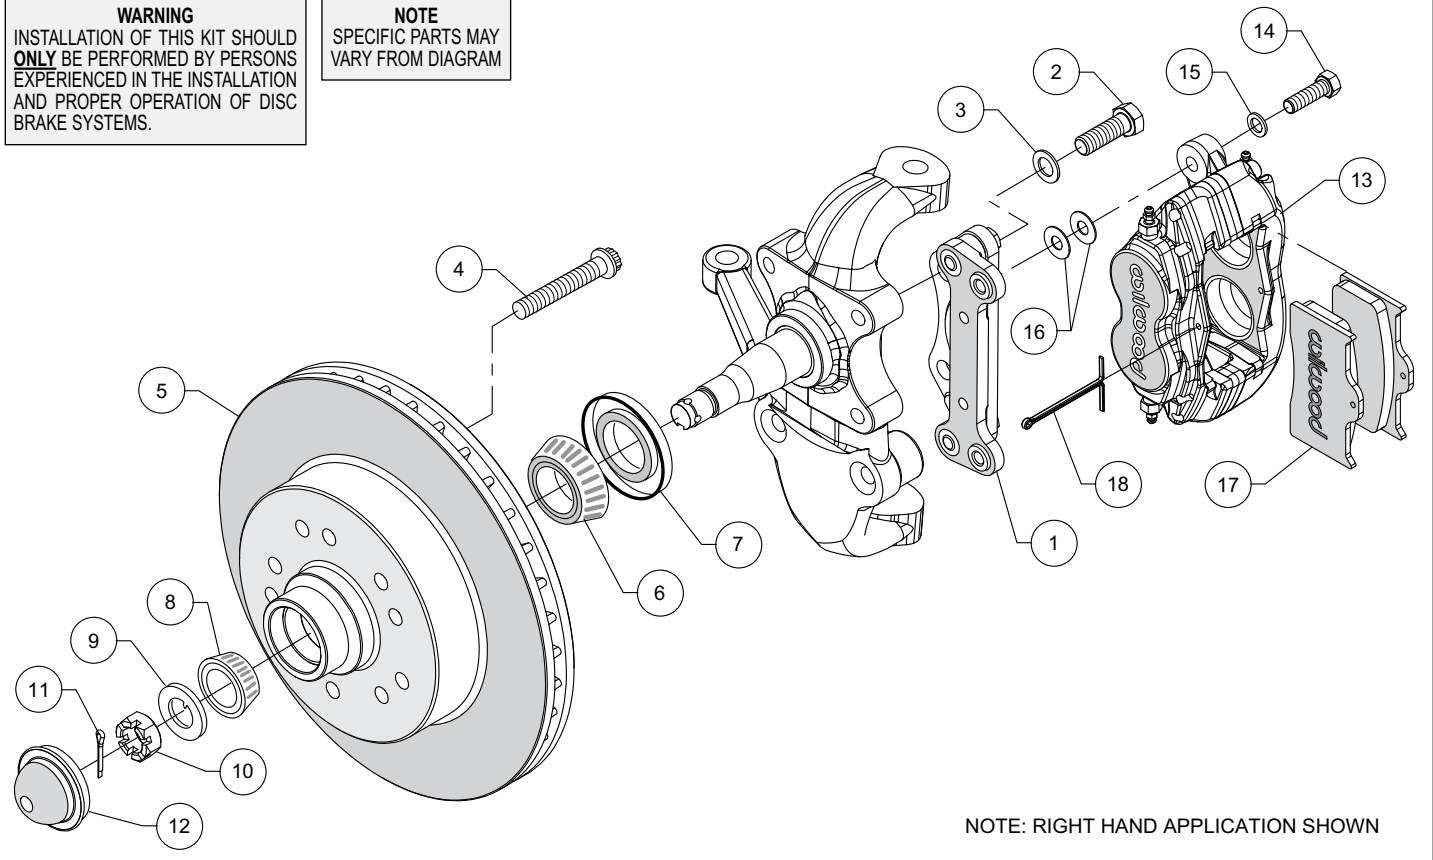
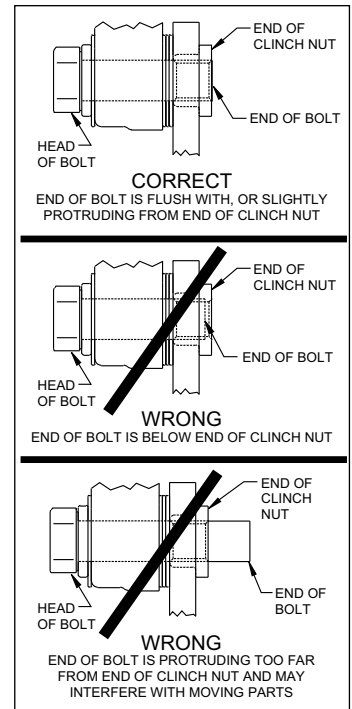

Figure 1. Typical Installation Configuration
Figure 3. Clinch Nut Engagement Diagram
Assembly Instructions (numbers in parenthesis refer to the parts list and Figure 1 on the preceding pages): **CAUTION:** All mounting bolts must fully engage clinch nuts. Be sure to check that all bolts are either flush or protruding through flanged side of clinch nut after shimming, Figure 3.
- Orient the bracket as shown in Figure 1, and Photo 1. Install using bolts (2) and washers (3). Ensure that the flanged heads of the clinch nuts in the bracket are facing outboard, Photo 1. Temporarily tighten the mounting bolts. **NOTE:** The bracket must fit squarely against the mounting points on the spindle. Inspect for interference from casting irregularities, machining ridges, burrs, etc. Remove bolts one at a time, apply red *Loctite*® 271 to threads, and torque to 90 ft-lb.
- Install wheel studs (4) into the hub/rotor (5), Photo 2. Apply red *Loctite*® 271 to the threads and torque to 77 ft-lb. **NOTE:** There are two five lug patterns in the hub (5 x 4.50 and 5 x 4.75). Ensure the correct hub stud pattern is being used to fit the wheel application.
- Pack the large inner bearing cone (6) with high temperature disc brake bearing grease (available from your local auto parts store) and install into the backside of the hub/rotor (5), Photo 3.
- Install the grease seal (7) by pressing into the backside of the hub/rotor (5), flush with the end of the hub, Photo 4.
- Pack the small outer bearing cone (8) with high temperature disc brake bearing grease and install into the front side of the hub (5). Slide the hub/rotor onto the spindle, Photo 5. Secure using spindle washer (9) and spindle nut (10), Photo 6. Bearing adjustment: Tighten the nut while turning the hub. When there is a slight bind on the bearings, they are seated correctly. Back the nut off about 1/6 to 1/4 of a turn, or sufficiently to allow .001" to .007" end play. **WARNING:** Failure to back off adjusting nut could cause bearing to run hot and be damaged, which could cause the wheel to lock or come off. Install new cotter pin (11).
- Press the dust cap (12) into the hub/rotor (5), Photo 7. **NOTE:** Do not hammer center of cap. Install using outer flange only.
- NOTE:** Please reference the caution statement at the beginning of the assembly instructions. Mount the caliper (13) onto the caliper mounting bracket (1) using bolts (14) and washers (15), as shown in Figure 1. Initially place two .035" thick shims (16) on each bolt between the caliper and the bracket, Photo 8. Temporarily tighten the mounting bolts and view the rotor (5) through the top opening of the caliper. The rotor should be centered in the caliper (13), Photo 9. If not, adjust by adding or subtracting shims between the bracket and the caliper. Always use the same amount of shims on each of the two mounting bolts. **NOTE:** The end of each bolt must be flush with or slightly protruding from the head of the clinch nut, as shown in Figure 3. If necessary place spare shims (16) between washer (15) and